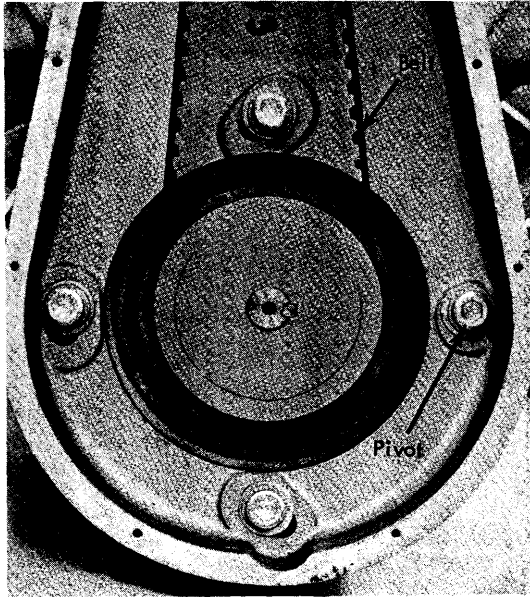

Figure 30. Drum Belt Tension Adjustment
#### Belt Tension (Figure 30)
2. Rotate motor about its pivot mounting bolt (all others are in slotted holes) until belt is properly adjusted (See Figure 30).